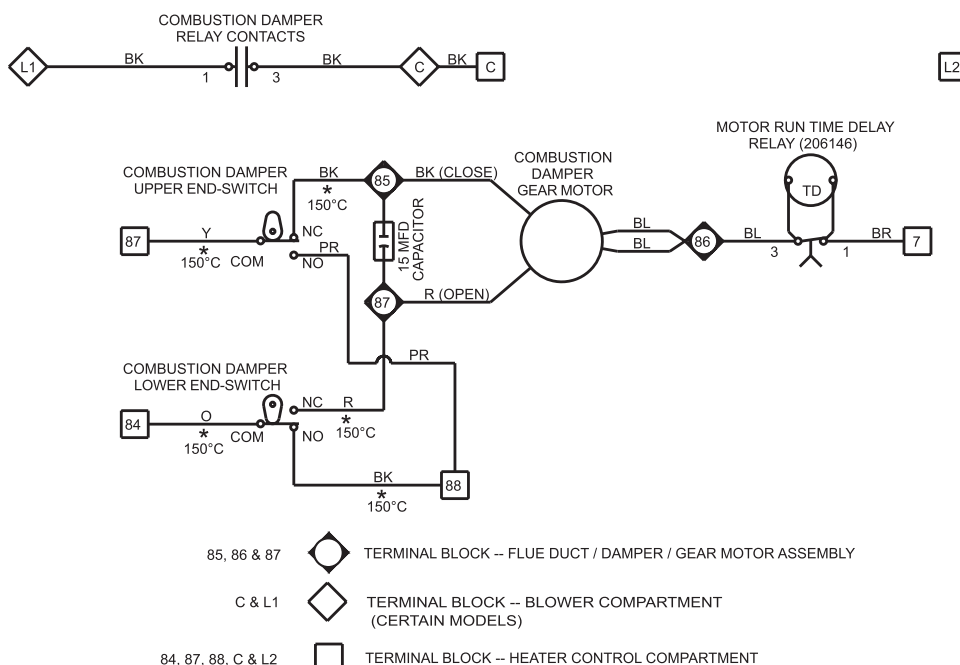

Figure 11. Replacement Gear Motor Wiring Diagram
- (1) Remove screws that secure patch plate to side of flue duct in replacement assembly and remove patch plate.
- (2) Slide long sensing tube through hole and position it so that tube extends into round venter opening on side of flue duct.
- (3) Secure sensing tube plate to flue duct using screws removed in step 5b(1).
- (4) Install free end of rubber tubing connected to pressure switch onto metal tubing on side of flue duct. Ensure that tubing is secure.
- c. Install replacement cover plate gasket (2) and secure flue duct cover plate removed in step 4b to front of newly-installed flue duct and damper assembly.
- a. Install replacement venter seal gasket (3) and orifice plate removed with venter housing and re-install venter housing.
7. Connect gear motor wiring in accordance with **Table 10** and **Figure 11**. Ensure that all connections are secure.